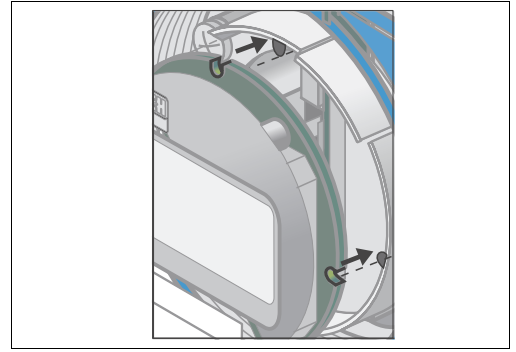

Fig. 17: Reinstalling display
3. Turn the removed display in 90 ° steps. Reinstall the desired orientation (Fig. 17). Ensure the display latches back into the guide.